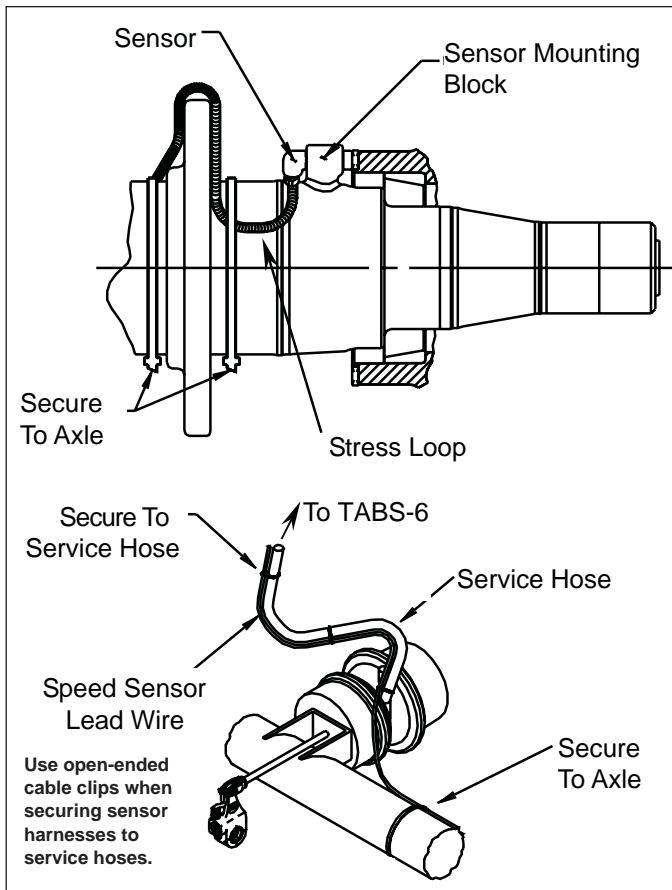

FIGURE 7 - SENSOR LEAD ROUTING AND SECURING
3. Gently push (DO NOT STRIKE) the sensor into the mounting block hole until it bottoms out on the face of the tone ring. Secure the cable lead wire to the knuckle/ axle housing three to six (3-6) inches from the sensor. See Figure 7.